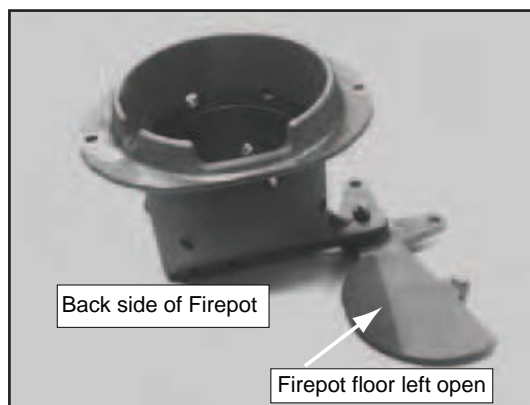

Figure 26.2 - DO NOT LEAVE FIREPOT FLOOR OPEN
3. Occasionally the appliance may run out of fuel and shut itself down. When this happens, the red call light will be on. To restart it, fill the hopper and press the reset button. **Figure 26.2.** When you press the reset button the red call light will go out. Release the button and the light will come back on. You should see a fire shortly. If not, follow the instructions on **page 25**, "Starting Your First Fire".
- The firepot floor plate must be fully closed when finished. **See Figure 26.2 on page 26.**